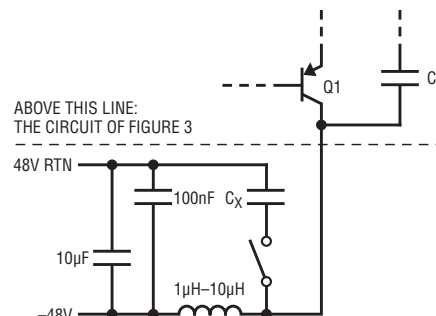

Figure 4. Attaching C_X to the circuit of Figure 3 for testing oscillator capacitance.
-48V bench supply (see Figure 4). To eliminate erratic readings caused by test lead inductance, bypass the -48V supply at the inductor. Measure the resulting frequency, f_1 . Now add a capacitor C_X of 1 nF to 4.7 nF to Q1's collector and measure the new frequency, f_2 . The two operating conditions are related by manipulating equation (1) to eliminate inductance. Thus